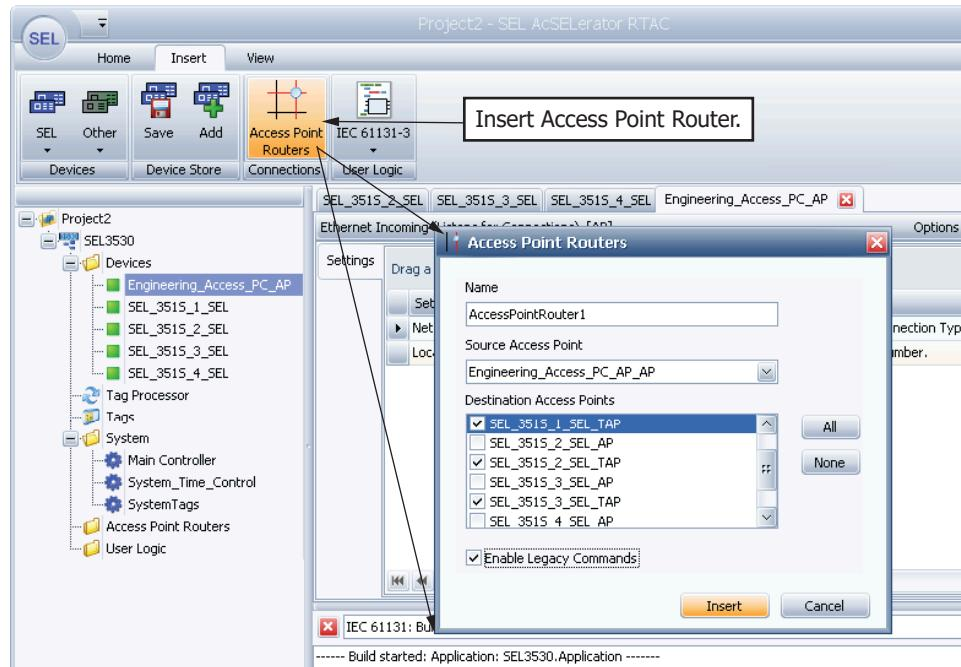

Figure 4.4 Insert Access Point Router
Step 8. On the **Insert** ribbon, click **Access Point Routers**. In this example, we want the RTAC to emulate an SEL-2030, so select each of the SEL_351S_n_SEL_TAP entries. See *Figure 4.4*.
Step 9. Select **Enable Legacy Commands** to force the RTAC to require a login and the **PORT** command in the tunnel session. Configure as illustrated in *Figure 4.4*.
The Legacy_Port_Command_ID setting field displays the ID that you will use for each APR. The default ID for the first APR is 1, with subsequent APR IDs incrementing thereafter. Had we also selected the _AP (direct transparent) APs as shown in *Figure 4.4*, we would have available additional APRs with unique port command IDs for each direct transparent connection. To open a transparent connection to **PORT 1**, type **Port 1** while connected to the RTAC through HyperTerminal to gain interleaved access to the device on PORT 1. To open a direct transparent connection on PORT1, type **Port 1 D** while connected to the RTAC through HyperTerminal to gain direct access to the relay on PORT 1. Configure the unique Legacy_Port_Command_ID, along with the default **PORT** command in Source_Rx_Message under POU Pin Settings within each APR.